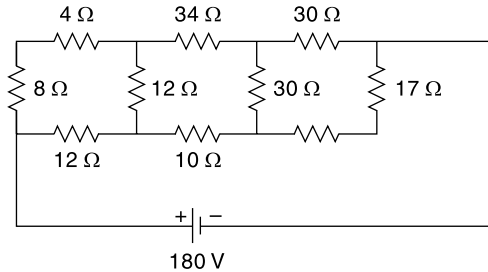

Fig. 4.181
20. Find the current in the $10\ \Omega$ resistance in the network shown in Fig. 4.181 using Thevenin's theorem. [Ans: 4 A]